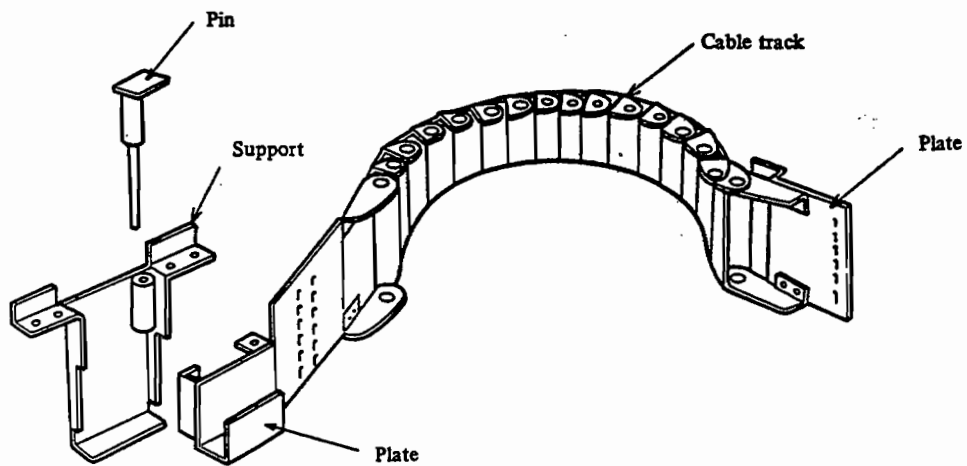

Fig. 7.2 (e) Replacing cables (S-700)
- ⑪ Remove the θ -axis connector panel and pull it halfway off. (See Fig. 7.2 (f).)
- ⑫ Remove the ground line and pull the θ -axis connector panel completely off with the cable track.